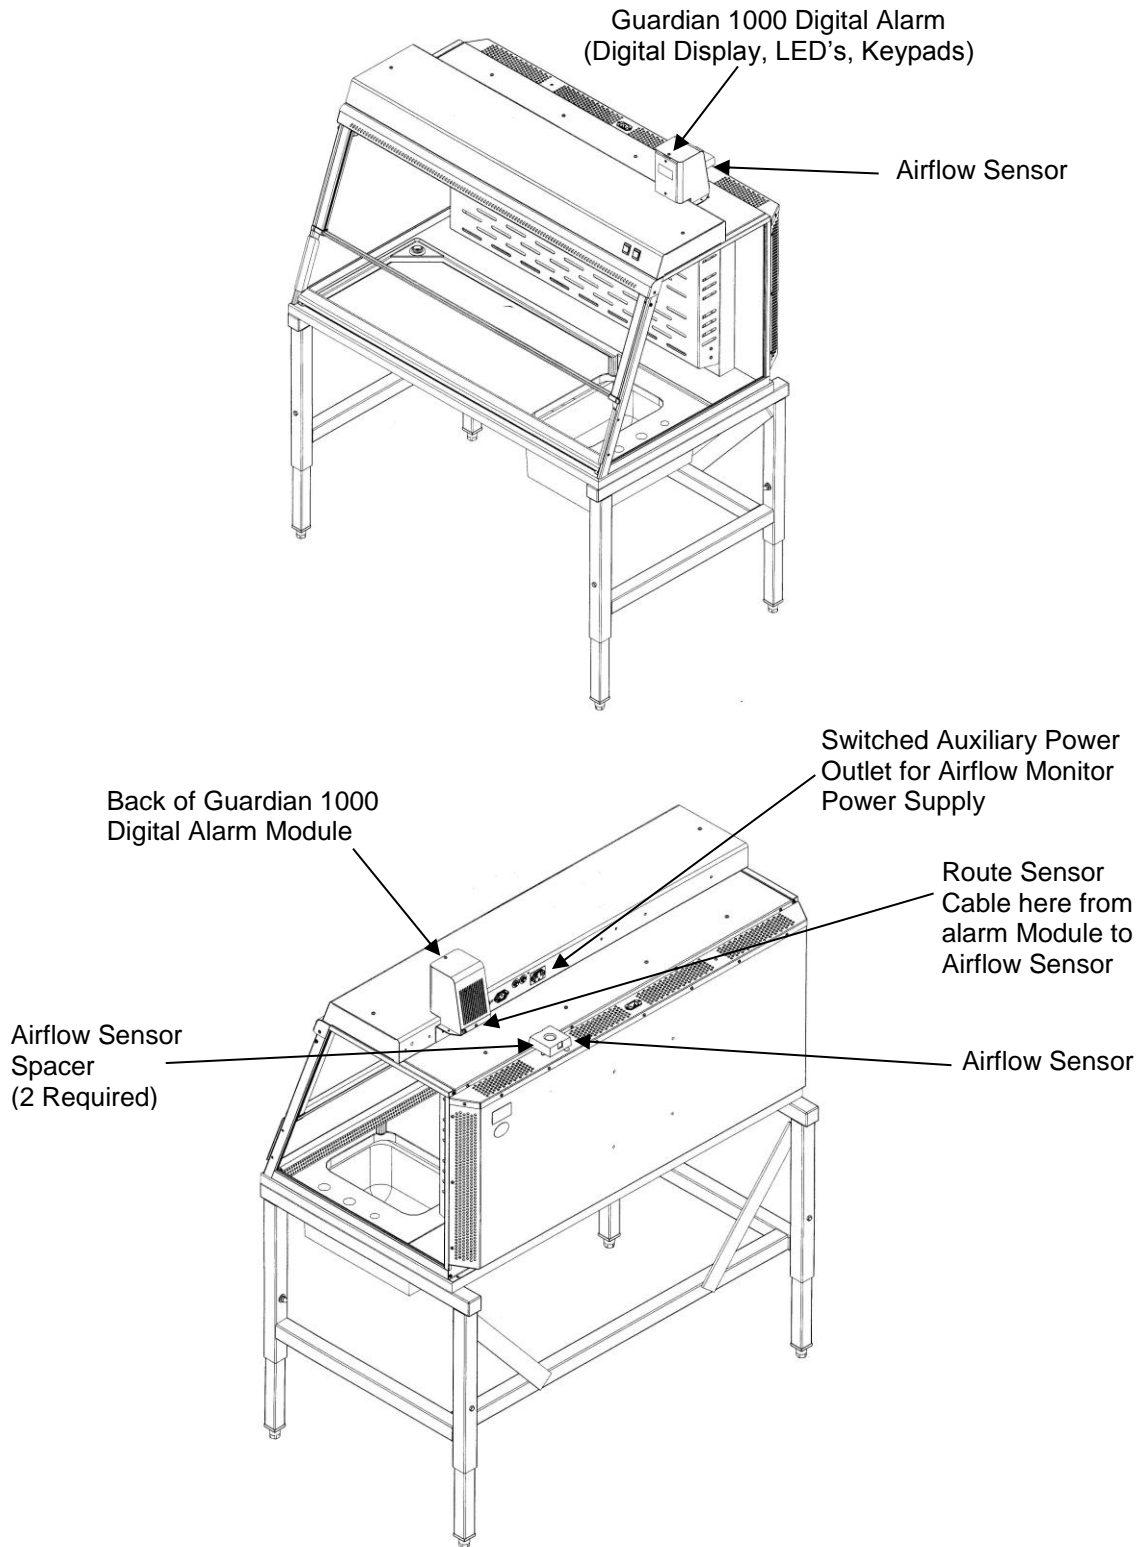

Figure 6-9
4. Secure the Guardian Digital alarm to the enclosure with double stick tape as shown in Figure 6-9. The airway passage between the alarm module and the enclosure is now complete.